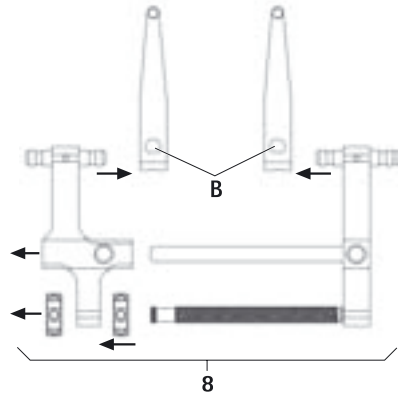

Fig. 3
- To dismount distractor 8 with the distraction blades, see Fig. 3: